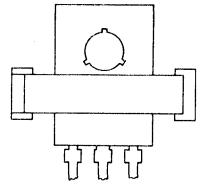

Fig. 3 Position of transistor (top view).
3. Push down the clip over the device until the long end of the clip snaps into the wide slot in the heatsink. The clip should bear on the plastic body (see Fig. 3).